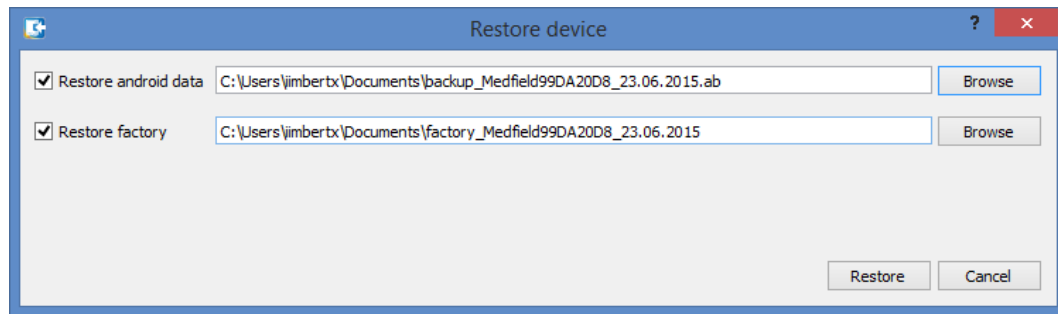

Figure 4-18: Device restore window
2. Select the "Restore" action and then the backup file. Note that the latest backup file used is already selected (see Figure 4-18);